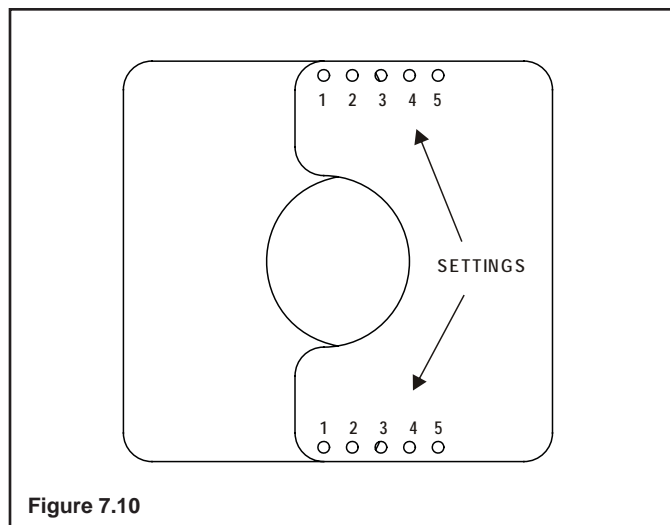

Figure 7.10
3. Match the amount of vertical you have in the system with the chart to find the appropriate position to set the exhaust restrictor (see Figure 7.10).